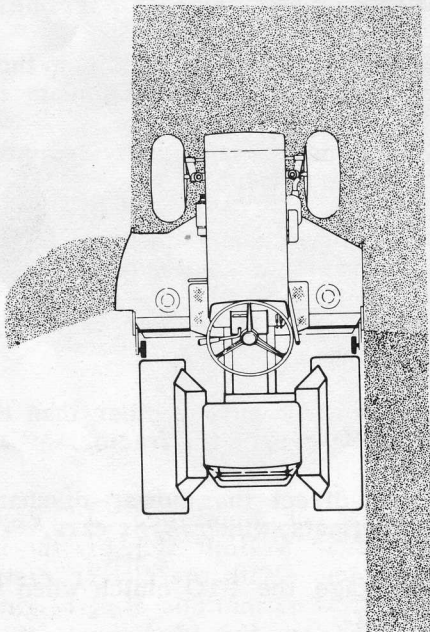

Figure 2. Discharging Grass Away from Uncut Area
4. Figures 2 and 3 illustrate two systems for mowing. If the grass is high or heavy, always mow to throw the clippings away from the uncut area, Figure 2. If the grass is light and more thorough mulching is desired, discharge the clippings toward the center of the uncut area, Figure 3. When mowing in this